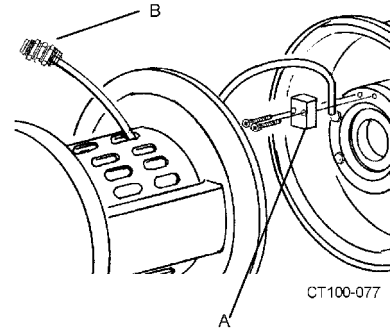

**Figure 9 - Type 1 Seal Assembly**
- Slide the tabbed washer (Figure 7, item F) over the impeller shaft and engage the tabs of the washer into notches on the outside of rotary seal. (Figure 9, items F and H).
- Install the three seal springs into holes in the spring retainer. (Figure 9, items C and E). Hold the springs in place with RTV silicone sealant.
- Slide the spring retainer over the impeller shaft until the slots in the spring retainer engage the drive tabs on washer and springs rest against the washer. (Figure 9).
- Lock the spring retainer in place by tightening the set screws. (Figure 9, item D).
- Install the deflector on to the impeller shaft. (Figure 9, item B).